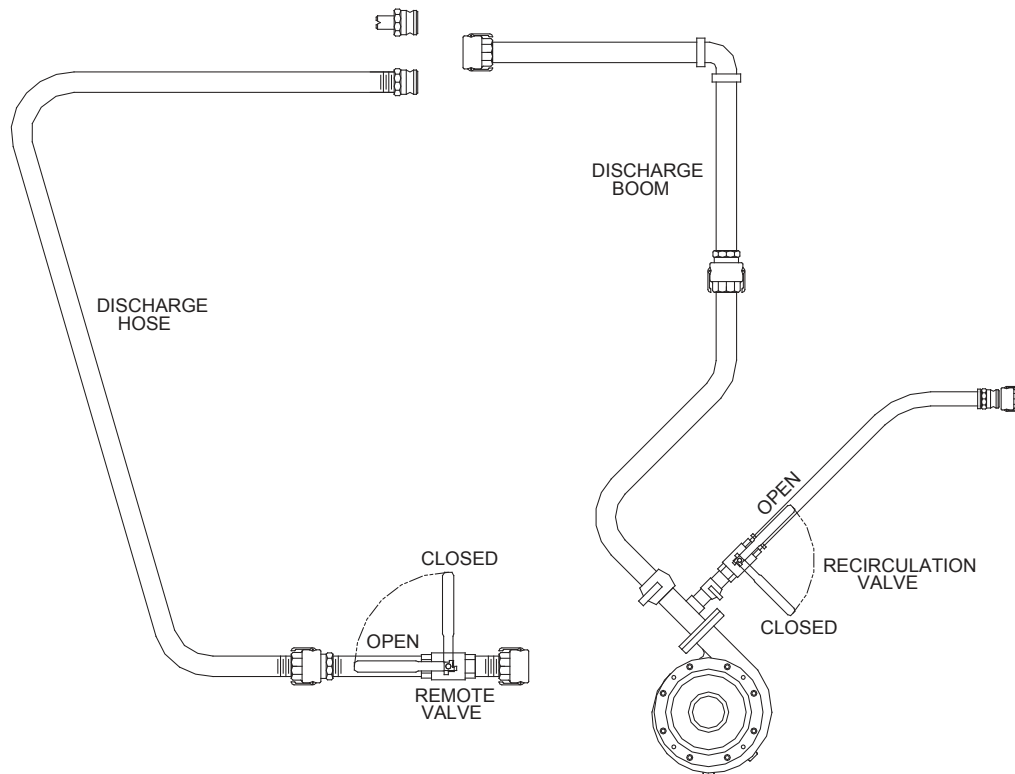

FIGURE 3
The platform option is equipped with two (2) independently operated ball valves to control slurry flow (see Figure 3). With the platform option, discharge of the slurry is accomplished two different ways; either through the discharge boom or through a discharge hose which is coupled to the end of the discharge boom.